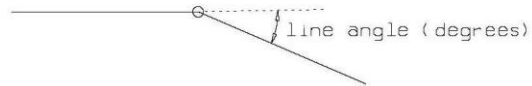

Figure 2
2. Determine the Line Angle on the structure by referring to Figure 2, page 3 and Line Work Method (LWM) 5020 if using a Pull Finder.